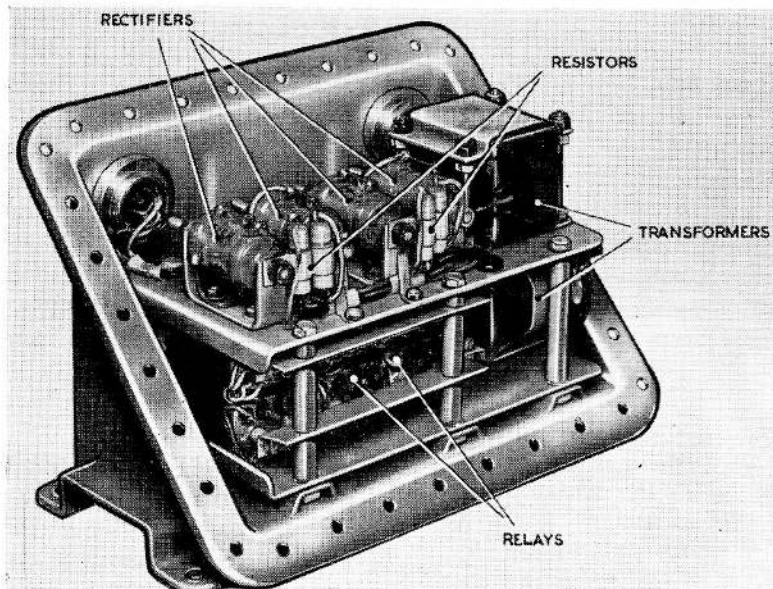

Fig. 2. Contents of relay box
3. The components of the relay box, which are shown in fig. 2, are mounted on a light-alloy chassis which is screwed to the lower half of the box. Each relay circuit in the box has its separate transformer, full-wave rectifier, a warning relay, and in early boxes a 330 ohm resistor. Two double-pole change-over test relays, which are operated by remote test switch, are mounted with the other components and each of these relays controls the testing of two warning relay circuits. The transformer is a step-down transformer with a tapped primary winding for use on 115V or 26V, 400 c/s a.c. supply. The warning relays used in the boxes are of the GD or JD type, which are identical in operation but differ slightly in manufacturing details, and coil and contact rating. The Type GD relays are fitted to control units of the following serial numbers:—